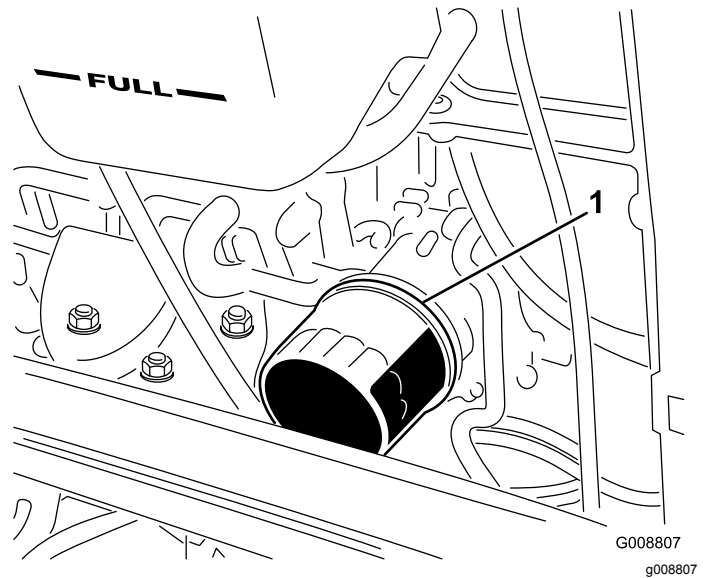

**Figure 36**
1. Remove the rear drain plug (Figure 36) and let the oil flow into a drain pan. When the oil stops, install the drain plug.